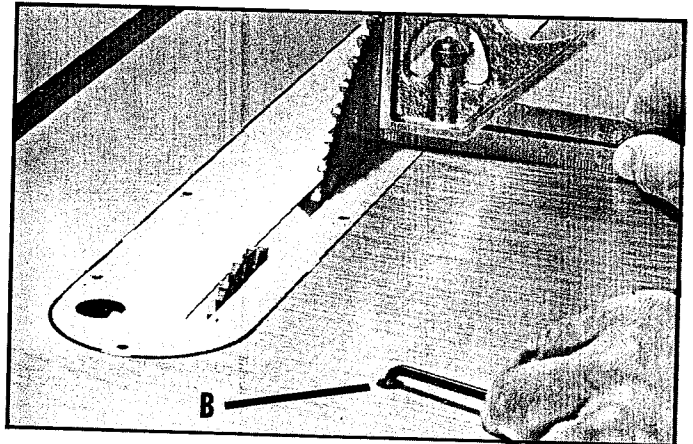
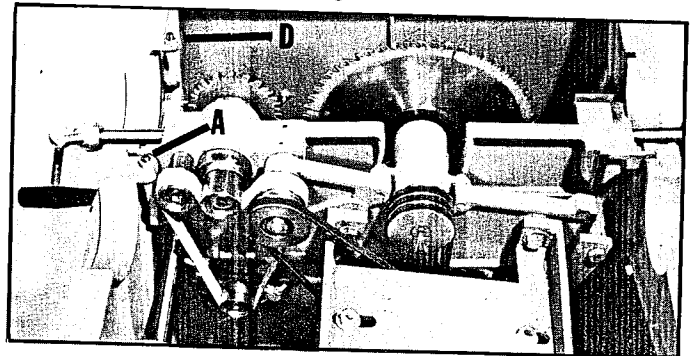
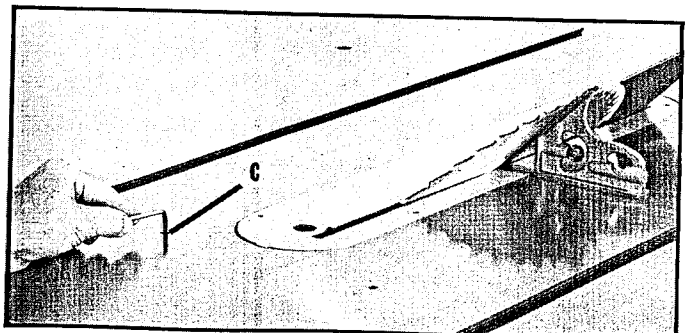

Fig. 44
Fig. 45
Fig. 46
2. Set the blade at 90° to the table by turning the blade tilting handwheel counterclockwise as far as it will go. Place a square on the table with one end against the blade, as shown in Fig. 44, and check to see if the blade is exactly 90° to the table.
3. If an adjustment is necessary, turn blade tilting handle clockwise enough to allow you to locate nut (A) Fig. 45, through the right hand side of the machine, and loosen nut (A). NOTE: The table has been removed for clarity in Fig. 45. Then loosen screw (B) Fig. 44. Turn blade tilting handle counterclockwise until the blade is perfectly set at 90° to the table and lock it in place. Tighten screw (B) Fig. 44 until it bottoms and tighten nut (A) Fig. 45.
4. The 45° positive stop can be checked and adjusted in the same manner by means of the set screw (C) Fig. 46, after the nut (D) Fig. 45, is loosened. Access to nut (D) Fig. 45, can be made through the front end of the table insert opening.